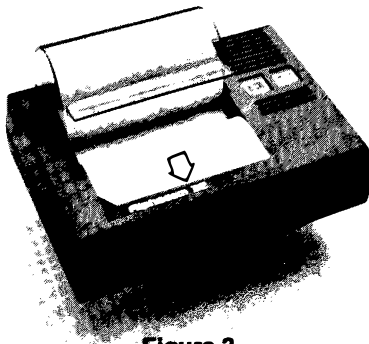

Figure 3
STEP 3: Reroll any loose paper coming from underneath the paper roll. Grasp the leading edge of the paper and hold it toward the front of the printing unit, then close the transparent cover. **IMPORTANT:** The leading edge of the paper must remain outside of the cover. See Figure 3.